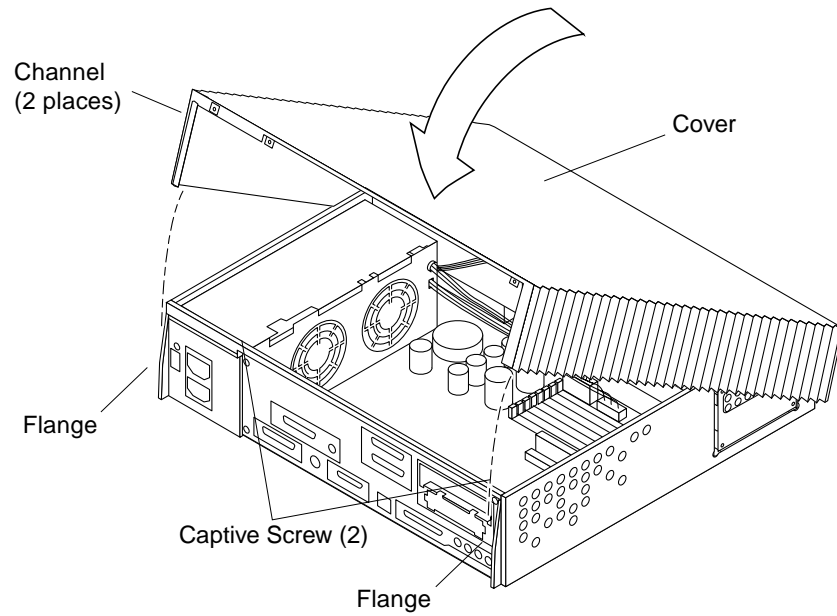

Figure 2-15 Replacing the Cover
1. Position the cover on the system as shown (Figure 2-15).
2. Lower the back side of the cover until the channels on each side of the cover align with the two flanges at the rear of the system. Press down on both sides of the cover until it is firmly seated (Figure 2-15).